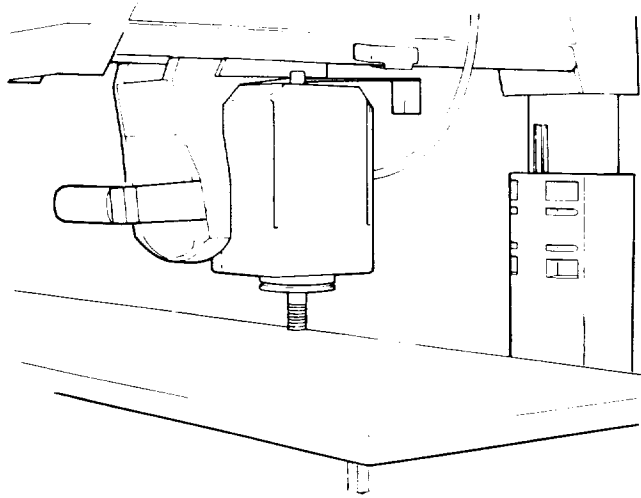

Fig. 82
3. Unlock the *bevel lock*, and turn the *motor* so that the *arbor* is perpendicular to the *table*. (Figure 82)